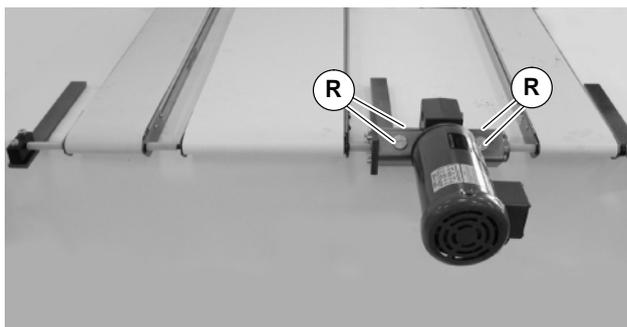

Figure 31
- Remove inspection plugs (R of Figure 31).